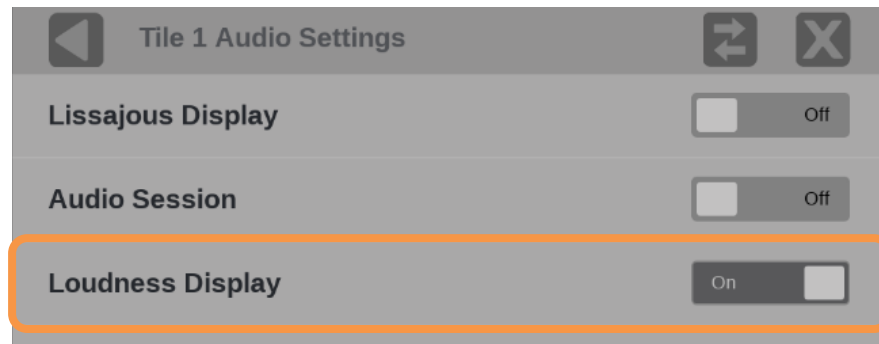

Figure 54: Audio Settings with the Loudness Display enabled
4. Set Loudness Display to **On**. (See Figure 54.)